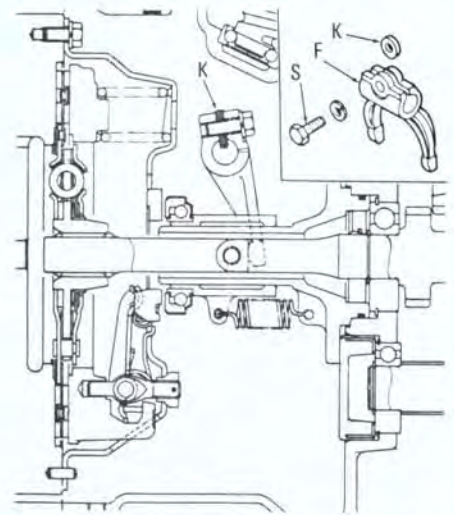

Fig. 92—Clutch fork (F) is positioned on lever shaft by key/washer (K), which fits in slot in shaft and is retained by cap screw (S).
94. Clutch linkage can be overhauled from front after clutch split. Release fork (F—Fig. 92) is positioned on shaft by a key/washer (K) which can be pried out after removing cap screw (S).